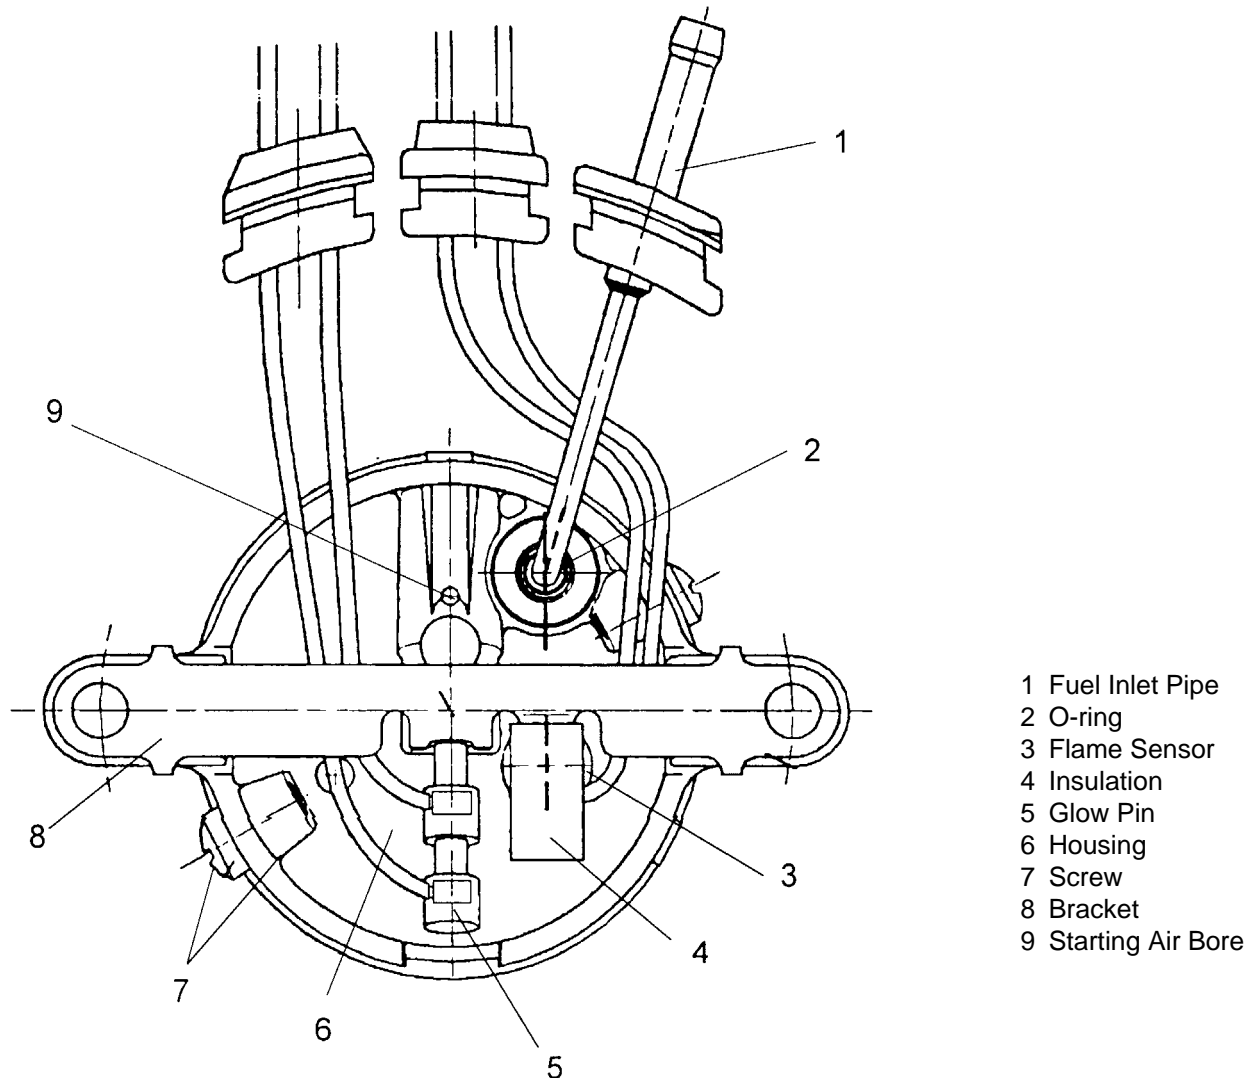

Fig. 5-3 Visual Inspection, Burner Rear Wall
- The starting air bore (Fig. 5-3) must not be clogged, otherwise there will be no start.
- The cables of the glow pin and flame sensor must be routed as shown in Fig. 5-3.
- The O-ring must have a tight fit around the fuel chamber upper edge (Fig. 5-3) and must seal completely.
- The insulation (4, Fig. 5-3) must be present.